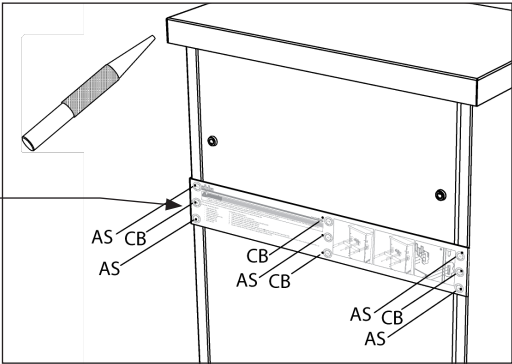

Fig. 7-3, Template Placement on Enclosure
- 1. Position and tape the template to the enclosure at the desired height for installing the security bar (see Fig. 7-2 and Fig. 7-3).